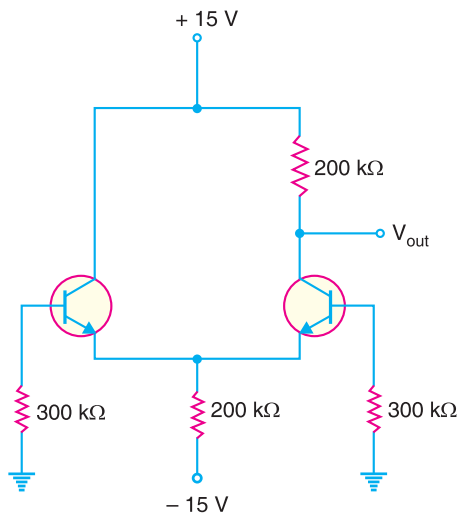

Fig. 25.97
1. In Fig 25.97, the transistors are identical with $\beta_{dc} = 200$. What is the output voltage? [7.5 V]
- In Fig. 25.97, the left transistor has $\beta_{dc} = 225$ and the right transistor has $\beta_{dc} = 275$. What are the base voltages? [- 0.05 V ; - 0.0409 V]